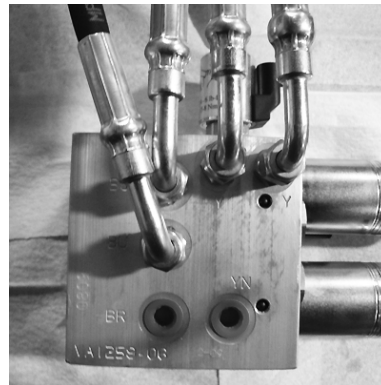

Figure 19
- d. The hoses when tightened must be oriented as shown in Figure 19.